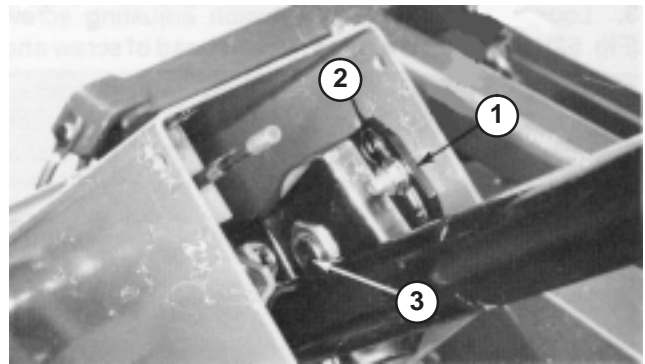

Figure 41
1. Remove knob from parking brake and self tapping screws from steering column cover. Slide cover up steering shaft to expose pivot bracket (Fig. 41).
2. Loosen small nut, rotate pivot bracket until it tightens large nut below (Fig. 41). Retighten small nut.